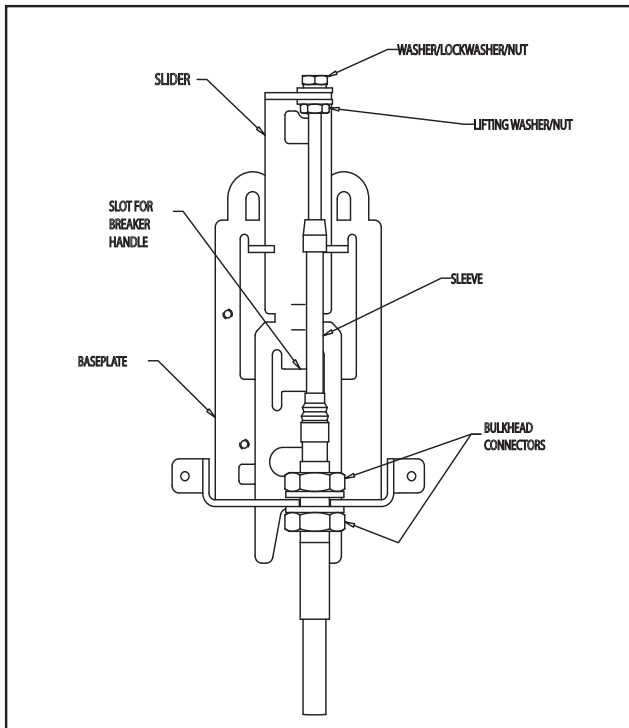

Fig. 1-3 J-Frame Actuator Mechanism.
The Flex Shaft handle mechanism provides a means of externally operating the circuit breaker and can be applied to enclosures of varying heights and depths. The handle can be used with NEMA 1, 3R, and 12 enclosure applications, depending on the accessory components selected. An operating handle, flexible shaft, and mechanism are required for standard application. Eight lengths of shafts are available for use with the wide range of depths of various enclosures (3' through 10'). When selecting the length of the Flexible Shaft, ensure Minimum Bending Radius of 4 inches is maintained to operate properly. The standard method of shipment includes the mechanism preset at the factory. If minor field adjustments are required, see Fig. 1-3. For this publication, the term circuit breaker shall also include the molded case switch and motor circuit protector (HMCP).
In the event a customer must disassemble the preassembled Flex Shaft handle mechanism, the procedure listed below must be followed before continuing with the "Installation" instructions. (See Fig. 1-3).
- H. Check operation of mechanism for ON, OFF, and reset. Check the reset position of the actuator mechanism, that the lifting nut and sleeve of shaft do not come in contact with each other (see Fig. 1-3). If they do, move bulkhead connectors accordingly. If mechanism functions incorrectly, repeat procedure or go to Adjustment Checklist.
Loosen the lifting washer/nut while tightening the washer/lockwasher/nut, two or three turns should be sufficient (see Fig. 1-3).
Note: Check the reset position of the actuator mechanism, that the lifting nut and sleeve of shaft do not come into contact with each other (Fig. 1-3) If they do, move bulkhead connectors accordingly.
Loosen the washer/lockwasher/nut on the end of the shaft while tightening the lifting washer/nut until breaker turns on with positive action. Tighten both nuts and recheck for ON, OFF, and Reset positions (Fig. 1-3).
Note: Be certain after adjustment to have a minimum of 1 thread past the washer/lockwasher/nut assembly (Fig. 1-3).